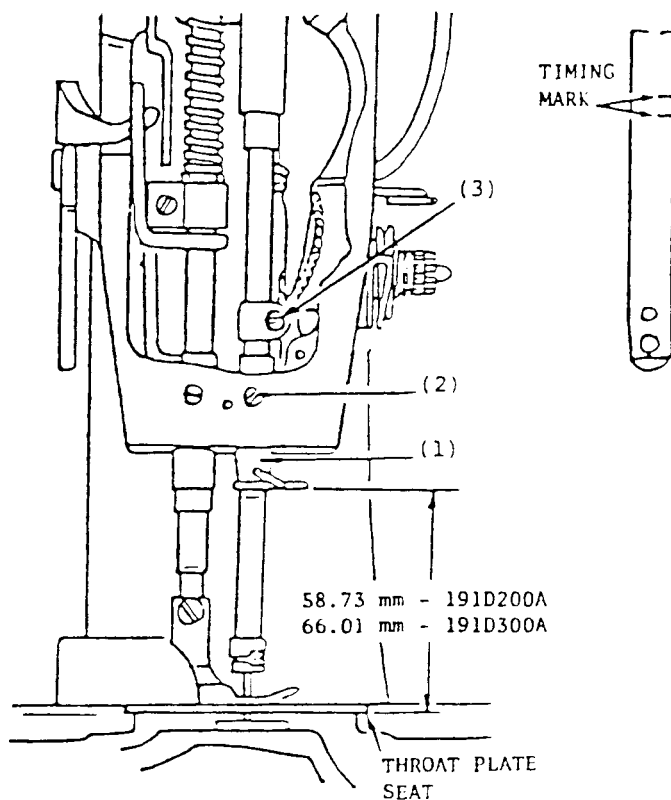

Fig. 2
Lower end of bushing (1), Fig. 2 must be set as shown in Fig. 2. To reset bushing, loosen screw (2).
Loosen clamping screw (3), Fig. 2. Raise or lower needle bar so that UPPER TIMING MARK is level with lower end of bushing (1). Then securely tighten screw (3).